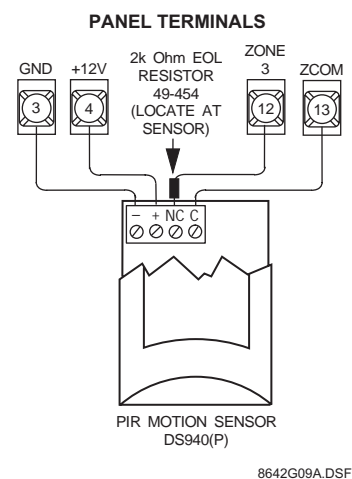

Figure 9. Connecting a PIR Motion Detector
Figure 9 shows the typical wiring for Detection Systems model DS940(P) PIR motion detectors. The minimum available panel voltage for hardwired PIR motion detectors is 8.5 VDC (9.1 VDC for UL Listed systems).